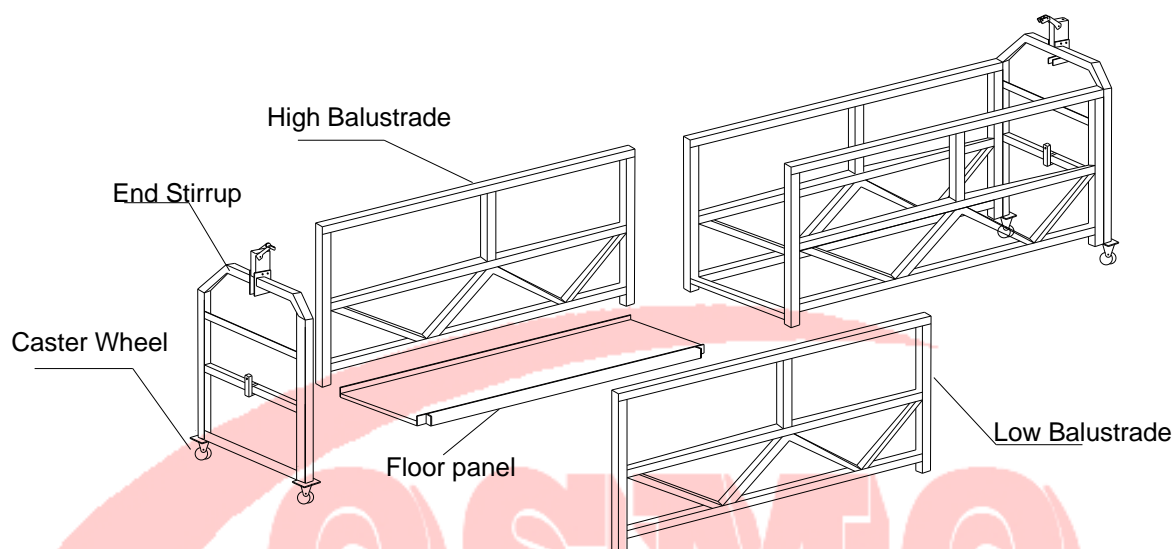

Figure 4: Suspended Platform
3.2.1 Main Components of Suspended Platform (see Figure 4)